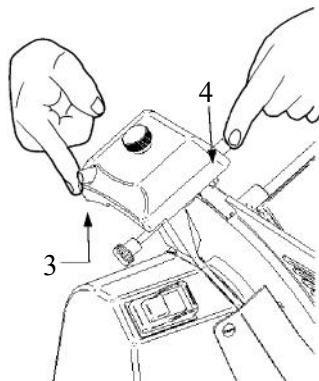

FIG. no. 9c
6. Push buttons simultaneously for 1-2 seconds (3 and 4) and then let go of them simultaneously (see FIG. no. 9c);